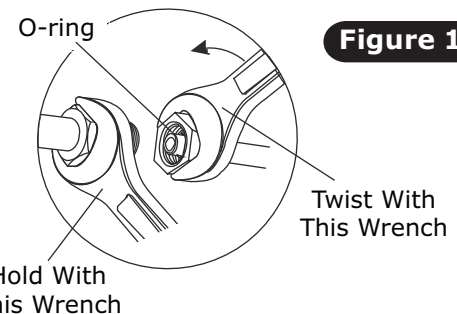
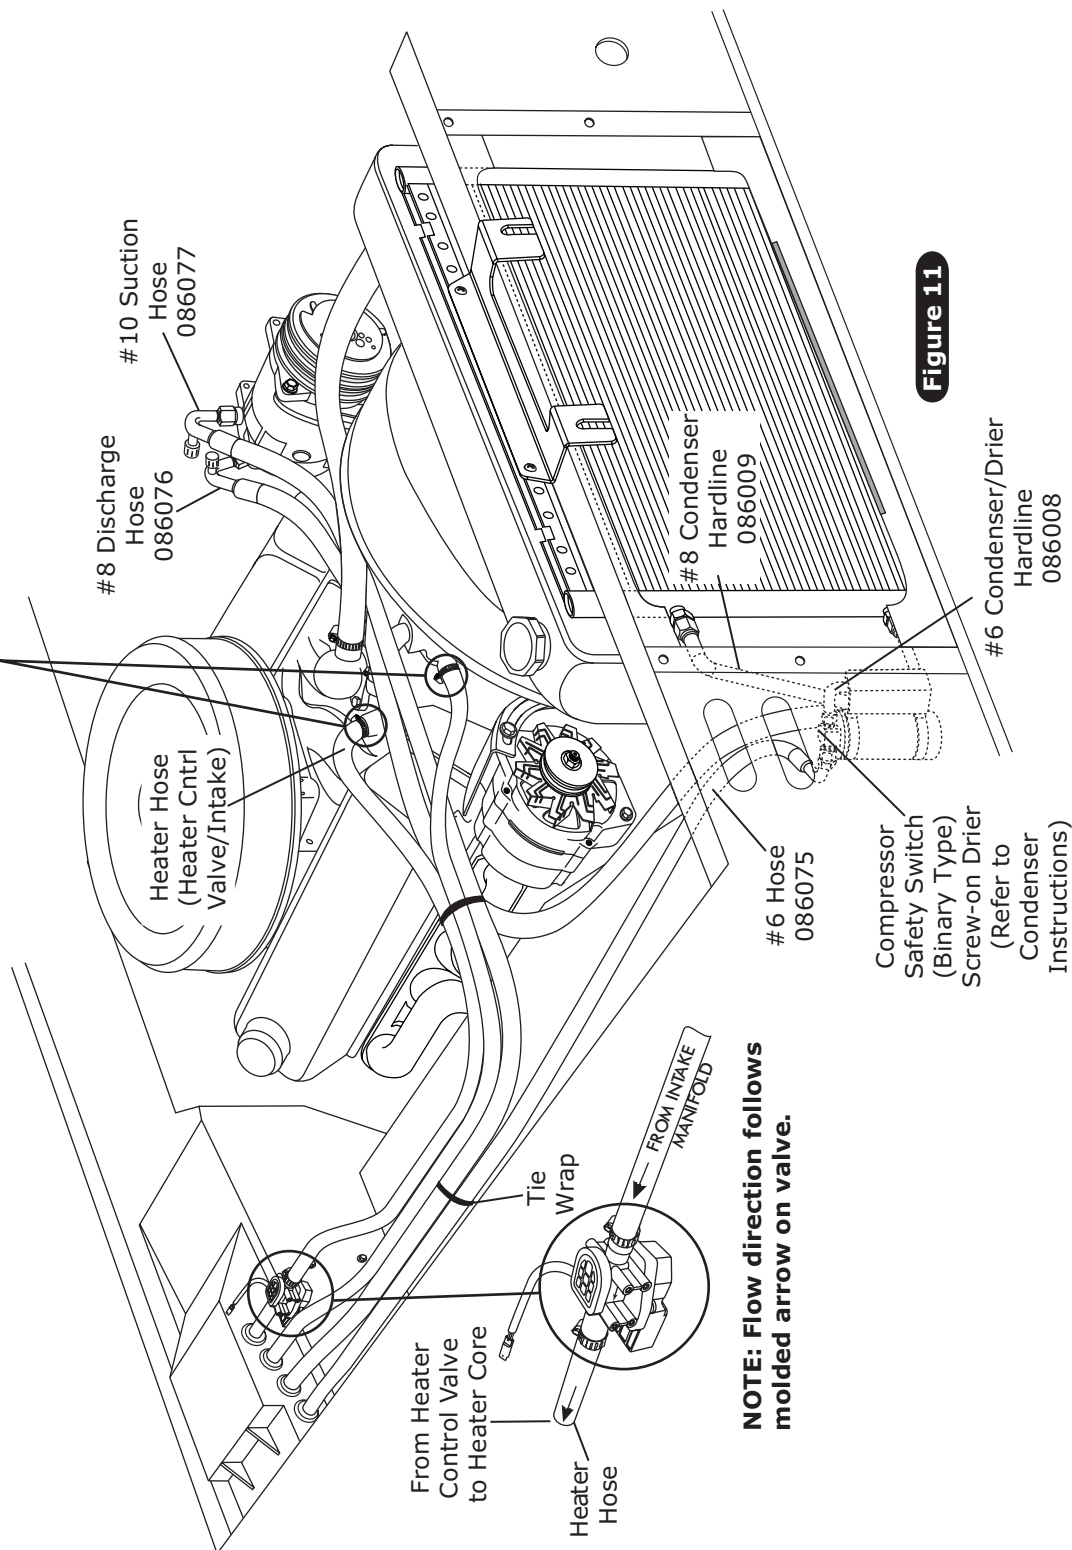

Figure 10
Figure 11
1. On a workbench, install evaporator rear bracket and heater hose fittings with properly lubricated O-rings (See Figure 5, Page 9, and Figure 10, Page 12).
1. Locate the #8 compressor A/C hose. Lubricate (2) #8 O-rings (See Figure 10, above) and connect the 135° female fitting with 134a service port to the #8 discharge port on the compressor. Route the 90° female fitting to the #8 condenser hardline (See Figure 11, Page 13). Tighten each fitting connection as shown in Figure 10, above.
2. Locate the #10 compressor A/C hose. Lubricate (2) #10 O-rings (See Figure 10, above) and connect the #10 135° female fitting with 134a service port to the #10 suction port on the compressor. Route the 90° female fitting to the #10 fitting on evaporator (See Figure 8a, Page 11, and Figure 11, Page 13). Tighten each fitting connection as shown in Figure 10, above.
3. Locate the #6 evaporator A/C hose. Lubricate (2) #6 O-rings (See Figure 10, above) and connect the 90° female fitting to the drier. Route the 90° female fitting to the #6 fitting on evaporator (See Figure 8a, Page 11, and Figure 11, Page 13). Tighten each fitting connection as shown in Figure 10, above.
1. Route a piece of heater hose from the water pump to the top heater fitting of the heater core as shown in Figure 8a, Page 11, and Figure 11, below. Secure using hose clamps.
2. Route a piece of heater hose from the intake to the bottom heater fitting of the heater core as shown in Figure 8a, Page 11, and Figure 11, below. **NOTE: Install heater control valve in line with intake manifold (pressure side) heater hose, and secure using hose clamps as shown in Figure 11, below. Also note proper flow direction.**